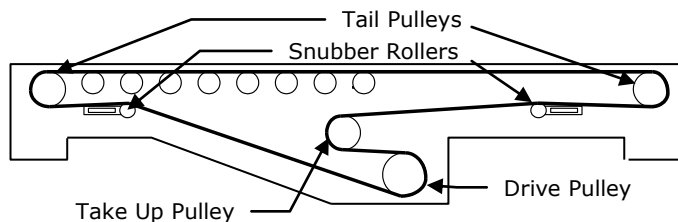

Figure 4.1 – Center Drive Belt Routing (roller bed shown, same for slider bed)
- Install belt per Figure 4.1.